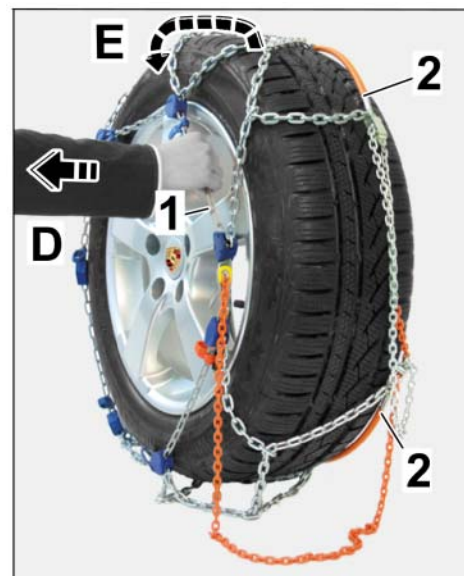

Figure 18
- 3.3.5 Hold the chain net above the center of the axle and pull it away from the wheel (⇒ *Figure 18 -D-*).
End of spring steel clip is rubbing slightly on the tire running surface (⇒ *Figure 18 -E-*).